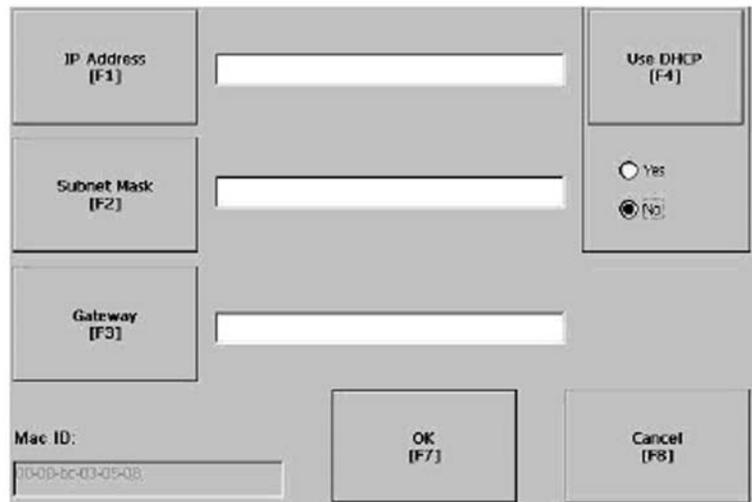

Figure 4-18.
18. From the IP Address screen select press the Use DHCP [F4] until the green bullet is in the No position and the IP Address [F1] button is enabled. See Figure 4-18.